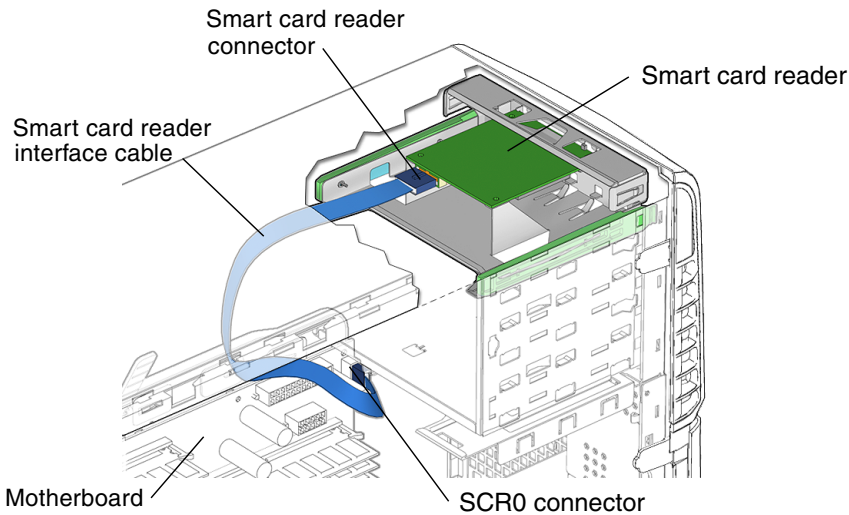

FIGURE 14-3 Removing the Smart Card Reader Cable
2. Locate the smart card reader interface cable (FIGURE 14-3).
4. **Connect the interface cable to the smart card reader** (FIGURE 14-3).